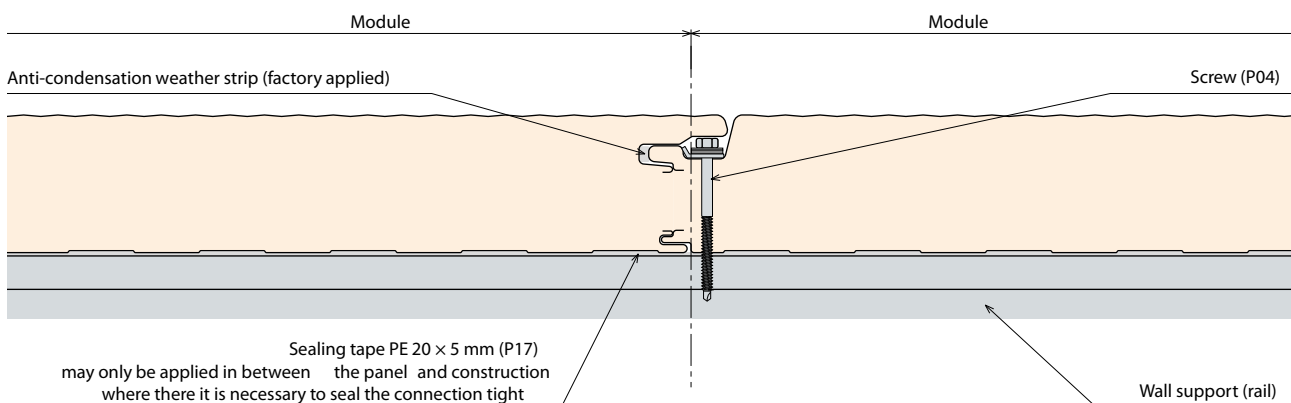

Fig. 49. – Detail D10.4. – Lock and anchoring of the AT / AWP / AWP FLex panel
- If there is no sealing tape applied in the groove of the panel's lock, or this tape has been damaged in any way, it is necessary to make sure that this tape has been applied to the groove before the assembly begins. The tape is part of the panel delivery (see Fig. 49).